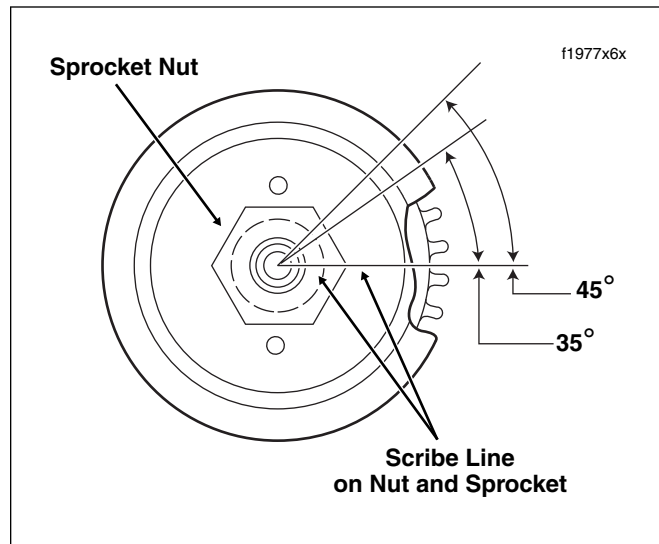

Figure 6-14. Tighten/Secure Sprocket Nut
5. Scribe a straight line on the transmission sprocket nut continuing the line over onto the transmission sprocket as shown in Figure 6-14. Tighten the transmission sprocket nut an additional 35° to 40°.
7. If holes in lockplate do not align with those in sprocket, tighten sprocket nut as necessary (up to the 45° maximum) until sprocket and lockplate holes are in alignment. See Figure 6-14.